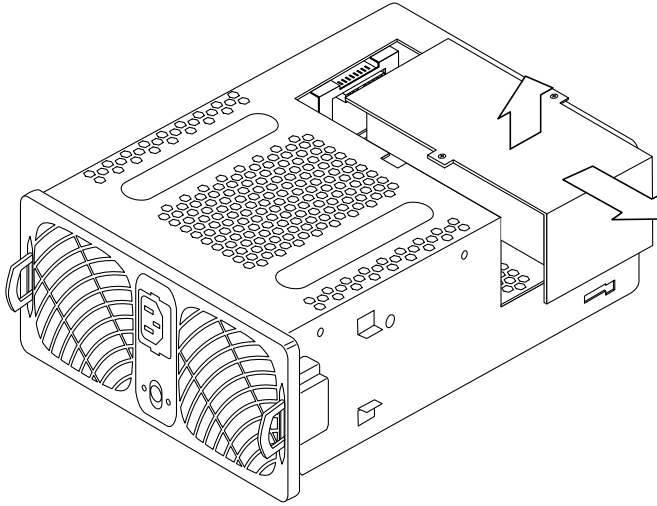
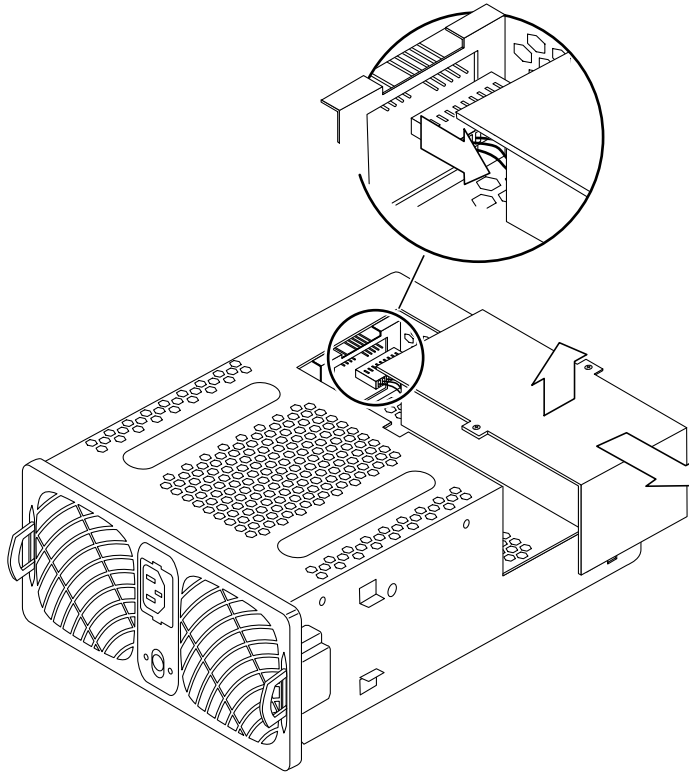

FIGURE 7-6 Lifting the PCU Bottom Panel and Battery Slightly Away from the Unit
FIGURE 7-7 The Battery Connector Details Inside the PCU
4. Slide the bottom panel off the unit slightly, enough to expose the battery connector as shown in FIGURE 7-6 and FIGURE 7-7.
See FIGURE 7-7.